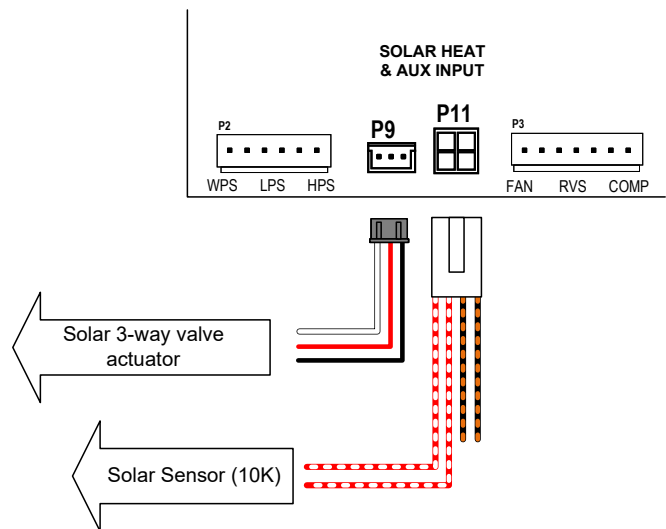

Figure 157. Solar Heat & Auxiliary Input
5. Inside the control box of the heater, connect the wires for the "Solar sensor" to the control board terminal labeled as "SOLAR" [P11] using the harness adapter labeled as "Solar Temperature Sensor / Auxiliary Safety Input" provided in the accessories bag. Connect the Red with White wires for a 10K temperature sensor and use the terminal [P9] to connect a standard 3-way valve actuator for the "Solar 3-way valve". Refer to Figure 157 for details.